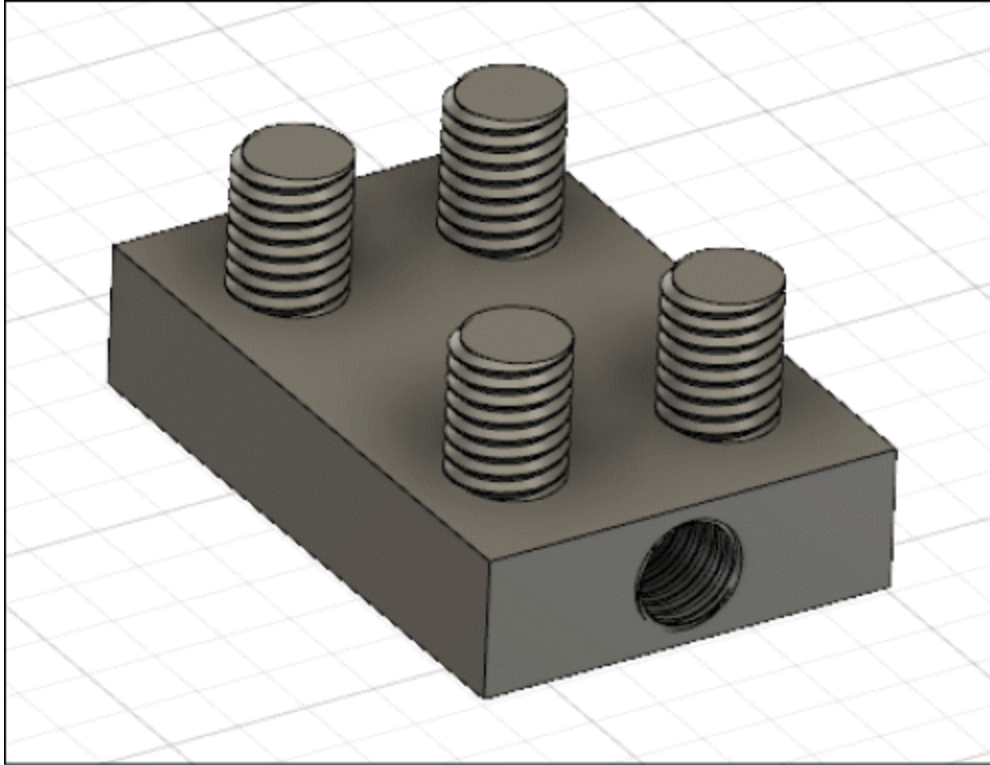

Figure-58. Thread created in solid
- Click **OK** button from **THREAD** dialog box to create the thread; refer to Figure-58.